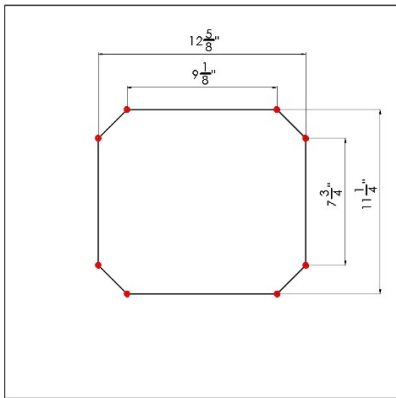

Figure 1.
- 1) To install the flush mount, cut an opening into the ceiling drywall as shown in Figure 1. (TIP: Drill holes at the corners of the cutout and cut between the holes.) The chamfered corners of the profile are necessary to allow the lid to completely cover the cutout.